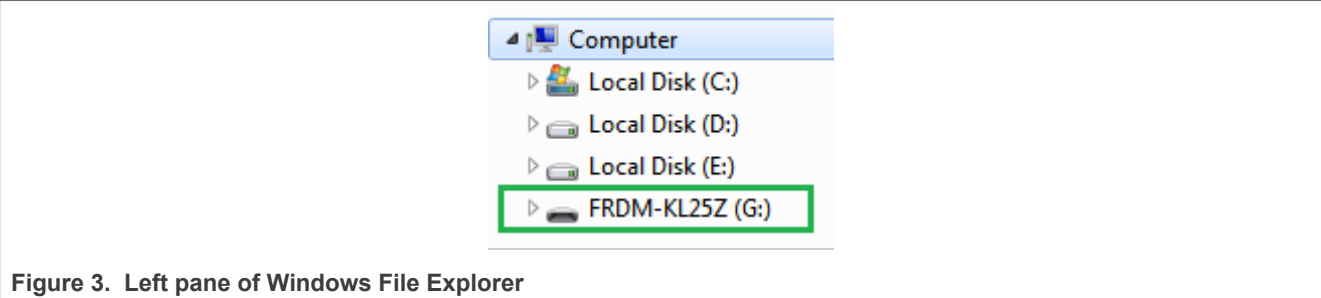

Figure 3. Left pane of Windows File Explorer
- This time without pressing the **RST** button, the FRDM_KL25Z device should appear on the left pane of the Windows File Explorer as pictured in Figure 3.
| Fig. 3. | Left pane of Windows File Explorer 7 | Fig. 6. | Jumpers9 |